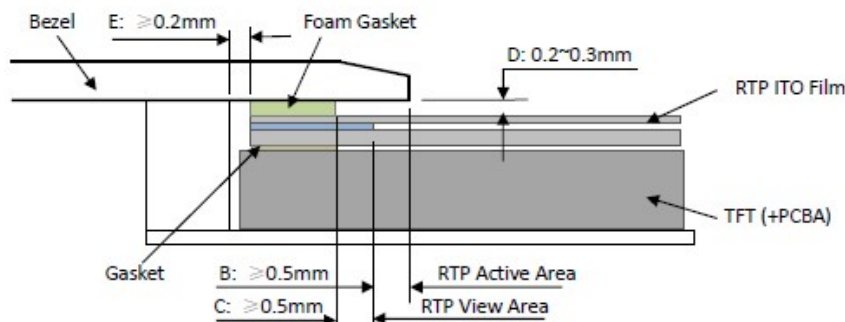

Figure 4
- It should bezel touching the RTP Active Area (A.A.) to prevent abnormal touch.It should left gab D=0.2~0.3mm in between. (Figure 4)
- Outer bezel design should take care about the area outside the A.A. Those areas contain circuit wires which is having different thickness. Touching those areas could de-form the ITO film. As a result bezel the ITO film be damaged and shorten its lifetime. It is suggested to protect those areas with gasket (between the bezel and RTP).The suggested figures are $B \geq 0.50\text{mm}$; $C \geq 0.50\text{mm}$. (Figure 4)
- The bezel side wall should keep space E= 0.2 ~ 0.3mm from the RTP. (Figure 4)
- 为避免面框直接压在动作区 (A. A.) 上造成误动作，面框与电阻触摸屏 (RTP) 之间应留有一定的空隙 $D=0.2 \sim 0.3\text{mm}$ 之间. (附图 4)
- 设计面框时，要注意用面框保护触摸屏四周的非保证操作区域，因为布线区域在此处形成一台阶，在此区域附近操作时 ITO Film 变形较大，容易导致 ITO 损坏而降低寿命。为保护 RTP 和避免误操作，在 RTP 与面框之间垫缓冲物 (Gasket)，我们建议设计面框应覆盖动作区的边缘，面框边缘到 V. A. 区的距离 $B \geq 0.50\text{mm}$ ；垫圈内边缘到 V. A. 区的距离 $C \geq 0.50\text{mm}$ 。（附图 4）
- 在设计面框与 RTP 组装时，应考虑到面框内侧与 RTP 外侧的间距 $E \geq 0.2\text{mm}$ 。（附图 4）